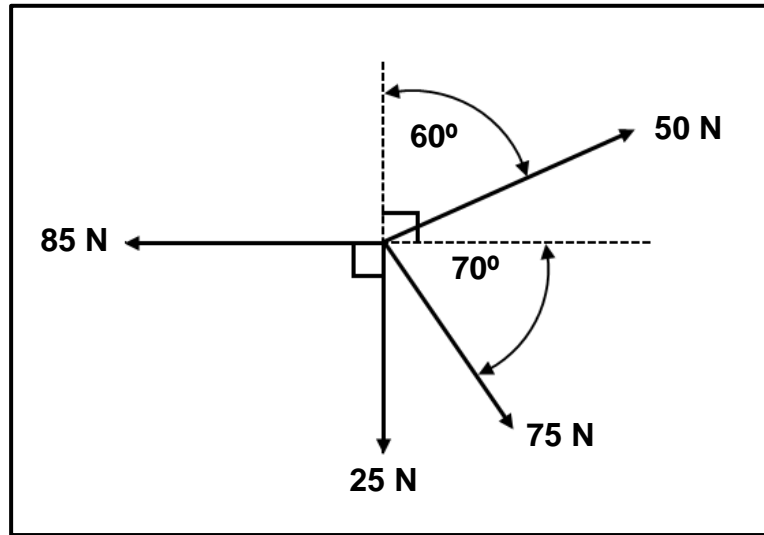

FIGURE 8.1
8.1 FIGURE 8.1 below shows a system of four forces acting on the same point. Calculate the magnitude and direction of the resultant for this system of forces.
HINT: Draw and complete the diagram in FIGURE 8.1. Show ALL the horizontal and vertical components before doing the calculations.